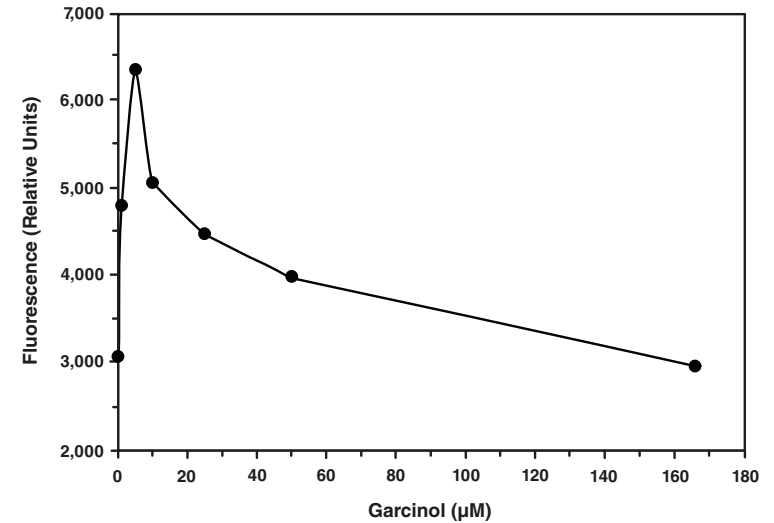

Figure 3. Interference of garcinol in the assay
5. An example of a known PCAF HAT inhibitor, garcinol, interfering with the assay is shown in Figure 3.⁹